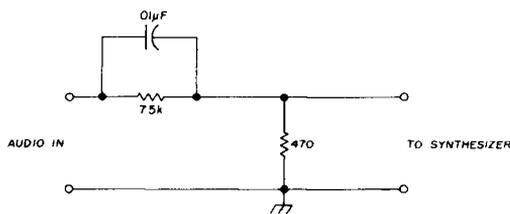

fig. 7. Schematic diagram of a standard 75 μ sec pre-emphasis network.
3. Use standard 75 μsec pre-emphasis (fig. 7). This is direct fm and the audio will sound muffled if pre-emphasis is not included. The pre-emphasis should be applied after the clipping and filtering. There should be 1 volt p-p available after preconditioning the audio. As a warning, the vco has a sensitivity of 5 MHz/volt. Therefore, it only takes 1 mV of noise in the system to make this synthesizer useless in a narrowband fm system. Ground noise, loops, and proximity to other systems can also cause problems. The vco assembly *must* be housed in a completely sealed metal box. Diecast aluminum boxes are the best. Attempts at ultimate miniaturization will only produce 5 kHz whine, and possibly 60 Hz hum on the signal.